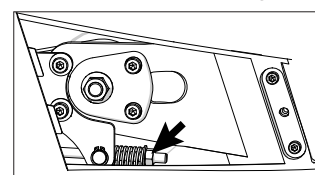

Figure 4
4. Turn the nut clockwise one full turn. Ride the bike at high resistance. If you still experience slippage, turn the nut clockwise one more full turn. Repeat until there is no slippage. (Figure 4).